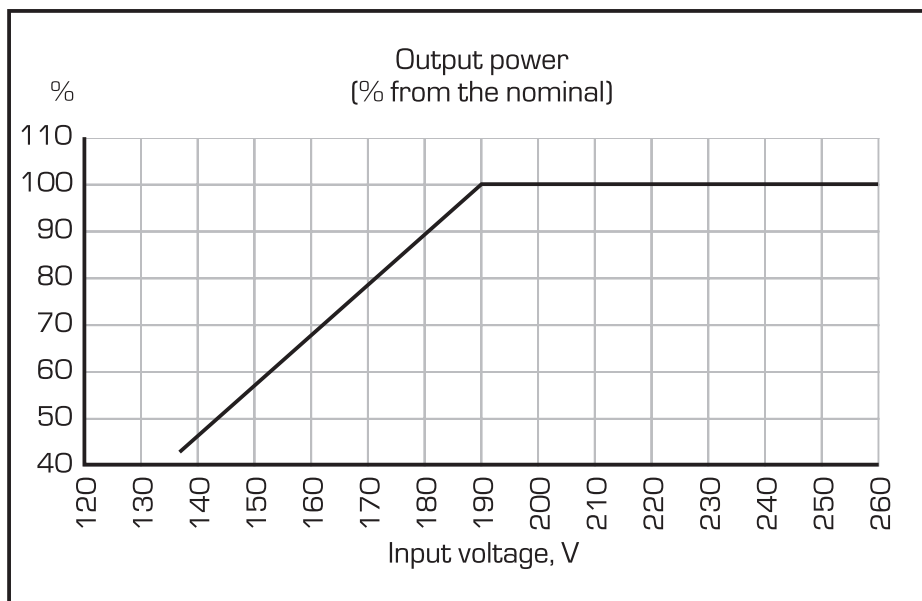

Fig.1
* power calculation is made for stabilizer with input voltage from 190 V. If the voltage less than 190 V, please look fig.1